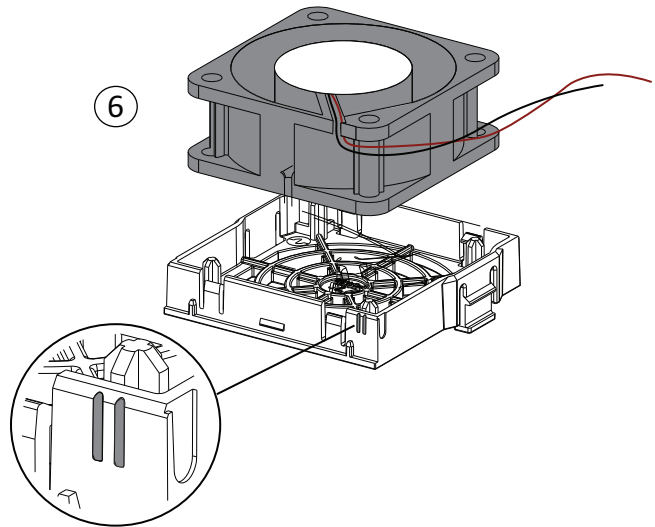

Fig. 70 — Install New Fan into Fan Cover
6. Install the new fan into the fan cover. Make sure that the air flow is in the correct direction. The air flows in from the bottom of the drive and out from the top of the drive. As shown in the following figure, the side with the fan power cable is aligned to the double bars sign on the fan cover. See Fig. 70.